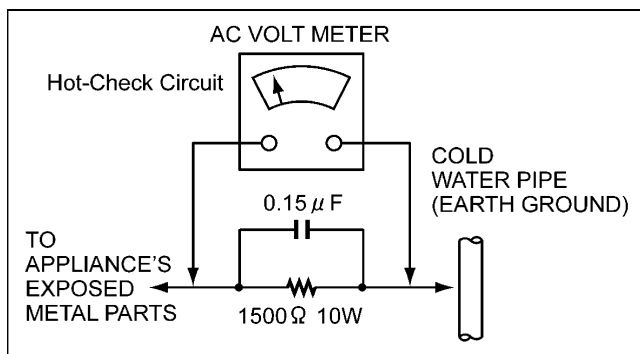

Figure 1
LEAKAGE CURRENT HOT CHECK (See Figure 1)
2. Connect a $1.5K\Omega$, 10W resistor, in parallel with a $0.15\mu F$ capacitor, between each exposed metallic part on the set and a good earth ground such as a water pipe, as shown in Figure 1.